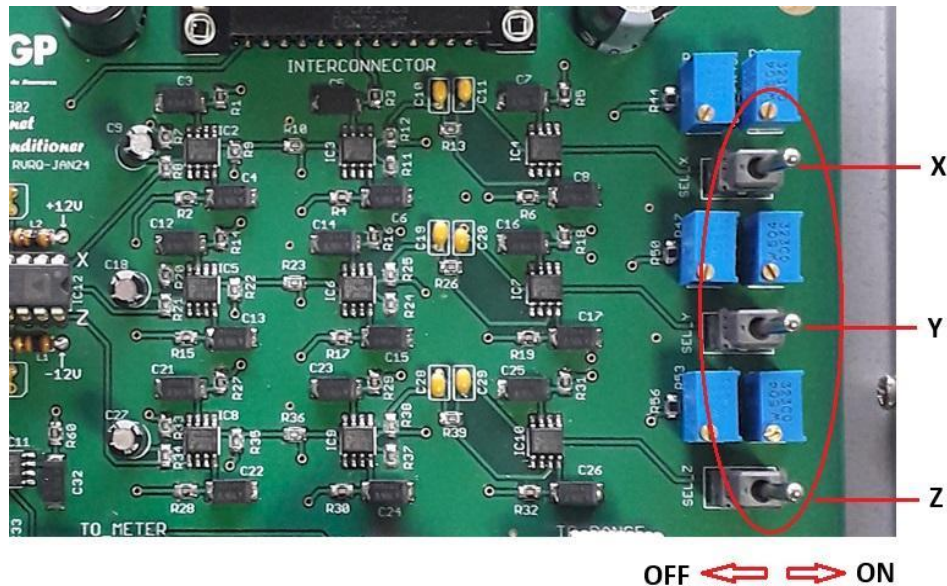

Figure 7. Toggle LPF switches location for X, Y, Z control.
There are three toggle switches X, Y, Z in the conditioning board for filter active (ON) or filter disable (Off) the LPF as shown in figure 7.